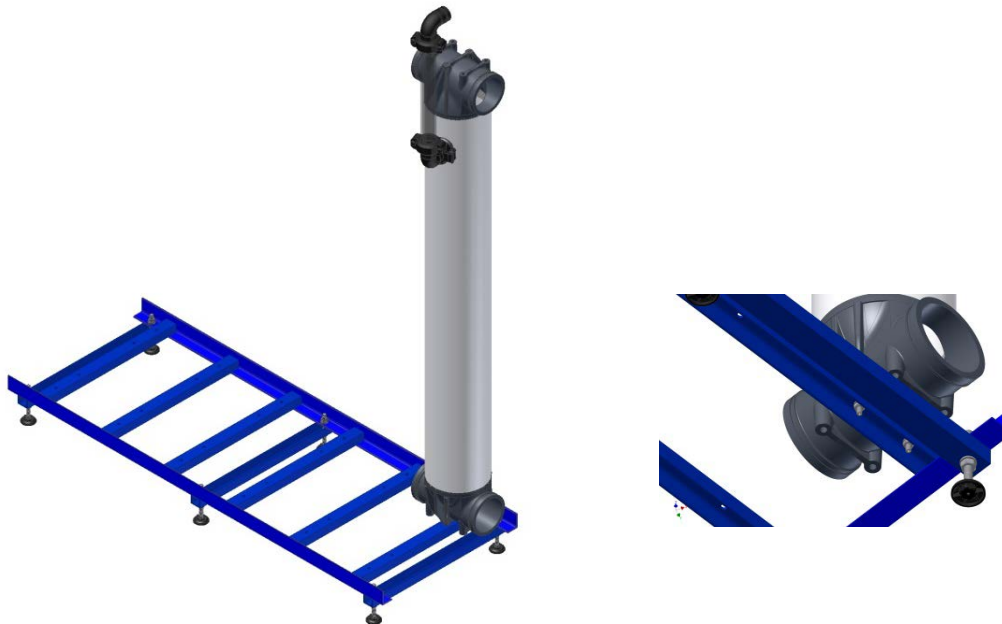

Figure 10-23: Mounting the modules on the bottom cross braces and connecting the bottom T-pieces of the modules with 6" flexible couplings
5. Next, place the first dizzer[®] module on the first cross brace (as shown in Figure 10-23) ensuring that the threaded pin screwed into the module is lowered into the hole provided for this purpose in the cross brace. Fasten the module to the cross brace using the nut and M10 lock washer. To avoid the risk of the module tipping over, one of the installation engineers must hold the module while it is being fastened in place (note that the assembly process requires a minimum of two installation engineers). At this stage it is sufficient to simply hand-tighten the nuts. Make sure that the front edge of the base is flush with the front edges of the two T-pieces of the outermost modules.